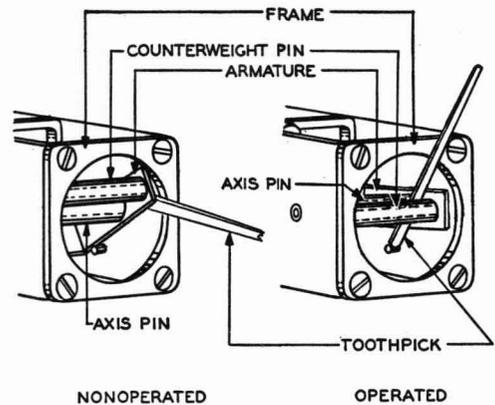

Fig. 11—Blocking 186-type Relays
3.13 **186-type Relays:** Fig. 11—Block relays nonoperated by inserting the flat end of a toothpick between the armature and the frame. Take care to insert the toothpick at the corner of the armature, as shown in Fig. 11, and make sure that the toothpick is resting against the circular opening of the frame at a point above its center. Block relays operated by inserting the flat end of a toothpick above the counterweight pin and below the axis pin with the toothpick resting against the circular opening in the frame, as shown in Fig. 11.